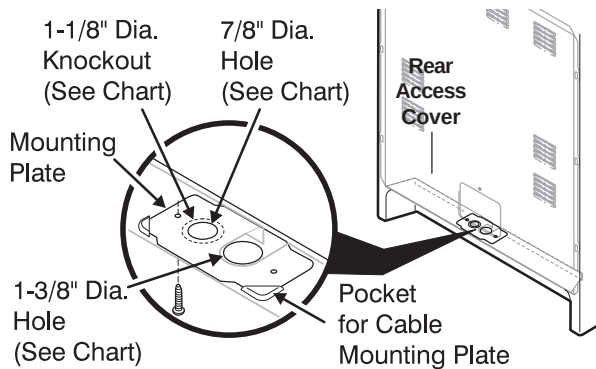

Fig. 9
See Range Connection Opening Size Chart (Figs. 9 & 10) for cord kit ampere rating information. Terminals on end of wires must be either closed loop or open-end spade lugs with upturned ends.
The Rear Access Cover must be removed (Fig 9). To remove, loosen center screw (one screw) and remove cover. The terminal block will then be accessible.
NOTE: Range is shipped from factory with 1-3/8" dia. hole as shown. To use either 7/8" dia. hole or 1-1/8" dia. knockouts refer to Fig. 9.
- Follow the manufacturer's installation instructions supplied with the strain relief and install (Also see Figs. 9, 10 & 11).
- Make sure all screws are tightened securely and replace the rear access cover (See Fig. 9).
1. Follow the manufacturer's installation instructions supplied with the strain relief and install (Also see Figs. 9, 10 & 11).
3. Make sure all connections are tightened securely and replace the rear access cover (See Fig. 9).